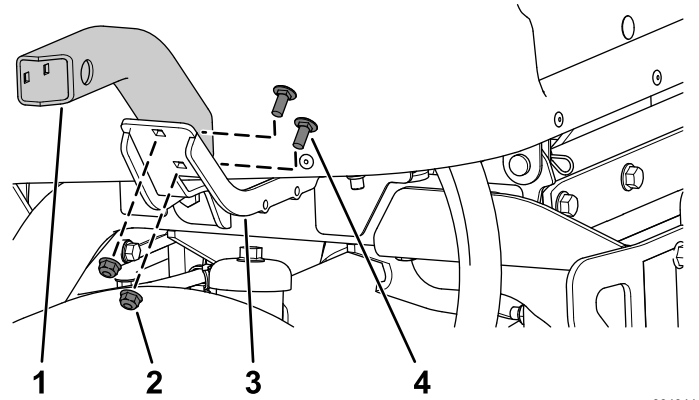

Figure 18
4. Secure the left short mount the left mount using 2 carriage bolts (5/16 x 3/4 inch) and 2 flange nuts (5/16 inch) as shown in Figure 18.